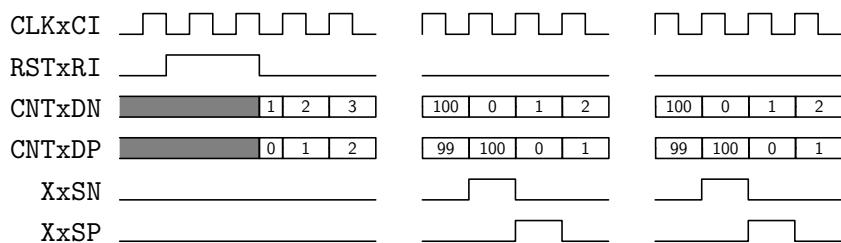

Figure 1: Pulse generator timing diagram with a pulse every microsecond (1000 ns).
Draw the RTL block diagram describing this circuit. Note that you can measure pulse length in different ways, i.e., you can use the start of the pulses or the gap between the pulses to measure 1 microsecond. Picking one or the other will just result in a slightly different timing diagram compared to Figure 1 where we have also added a register before output X.
- Drawing a timing diagram to show the circuit behavior as done in Figure 1. For a task where counters are used, you can also add the counter value to relate this to signal changes, i.e., at what counter value should other signals do something particular.